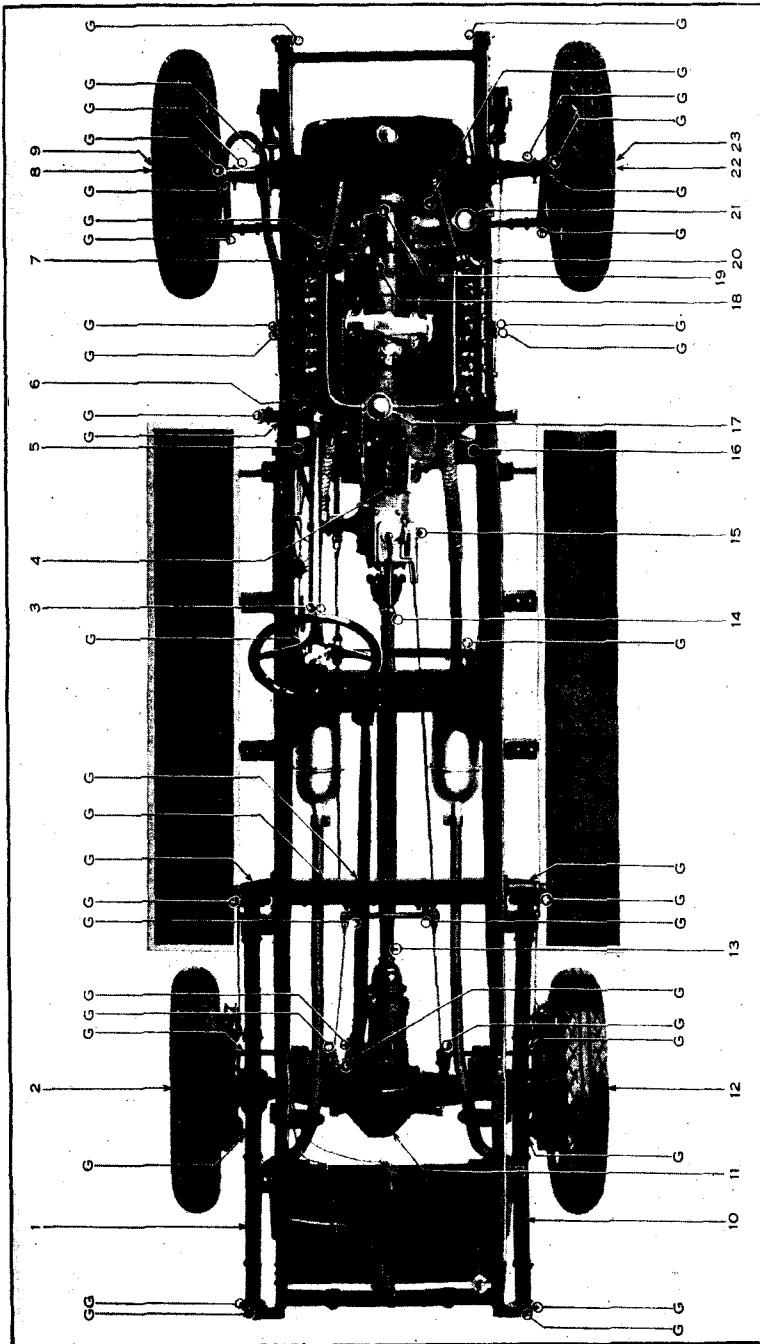

FIGURE 11. Chassis lubrication diagram
The schedule on page 36 is in outline form. Detailed information as to the location of the points to which lubricant is to be applied, the method of lubricating, and the kind and amount of lubricant will be found in Chapters VI and VII. For each point on the schedule, two reference numbers are given: the number of the page on which detailed directions will be found and the number designating the point on the chassis lubrication diagram (Fig. 11).
Spring bolts, steering connections, brake rocker shafts and other points are provided with connections to fit the grease gun supplied with the tool equipment. These points are indicated by "G" in Fig. 11. Cadillac Roller Bearing and Cup Grease should be applied to these points with the grease gun every 500 miles.
*The numbers following the headings in this chapter and in Chapter III refer to Fig. 11.